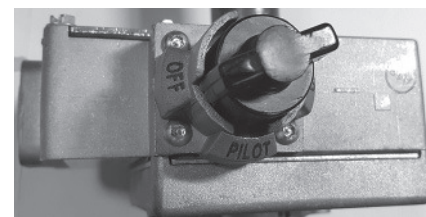

Figure 51: Gas control/valve.
- Disconnect the igniter wire from the piezo igniter lead wire. Disconnect the pilot tube (7/16” SAE wrench) and manifold tube (3/4” SAE wrench) at the gas control valve/thermostat. See Figure 51.